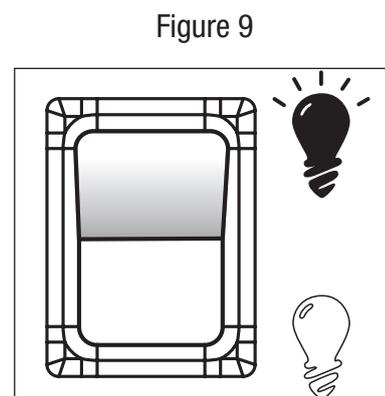

Figure 9
3. Push grill light button to 🔆 (ON) position (Figure 9).